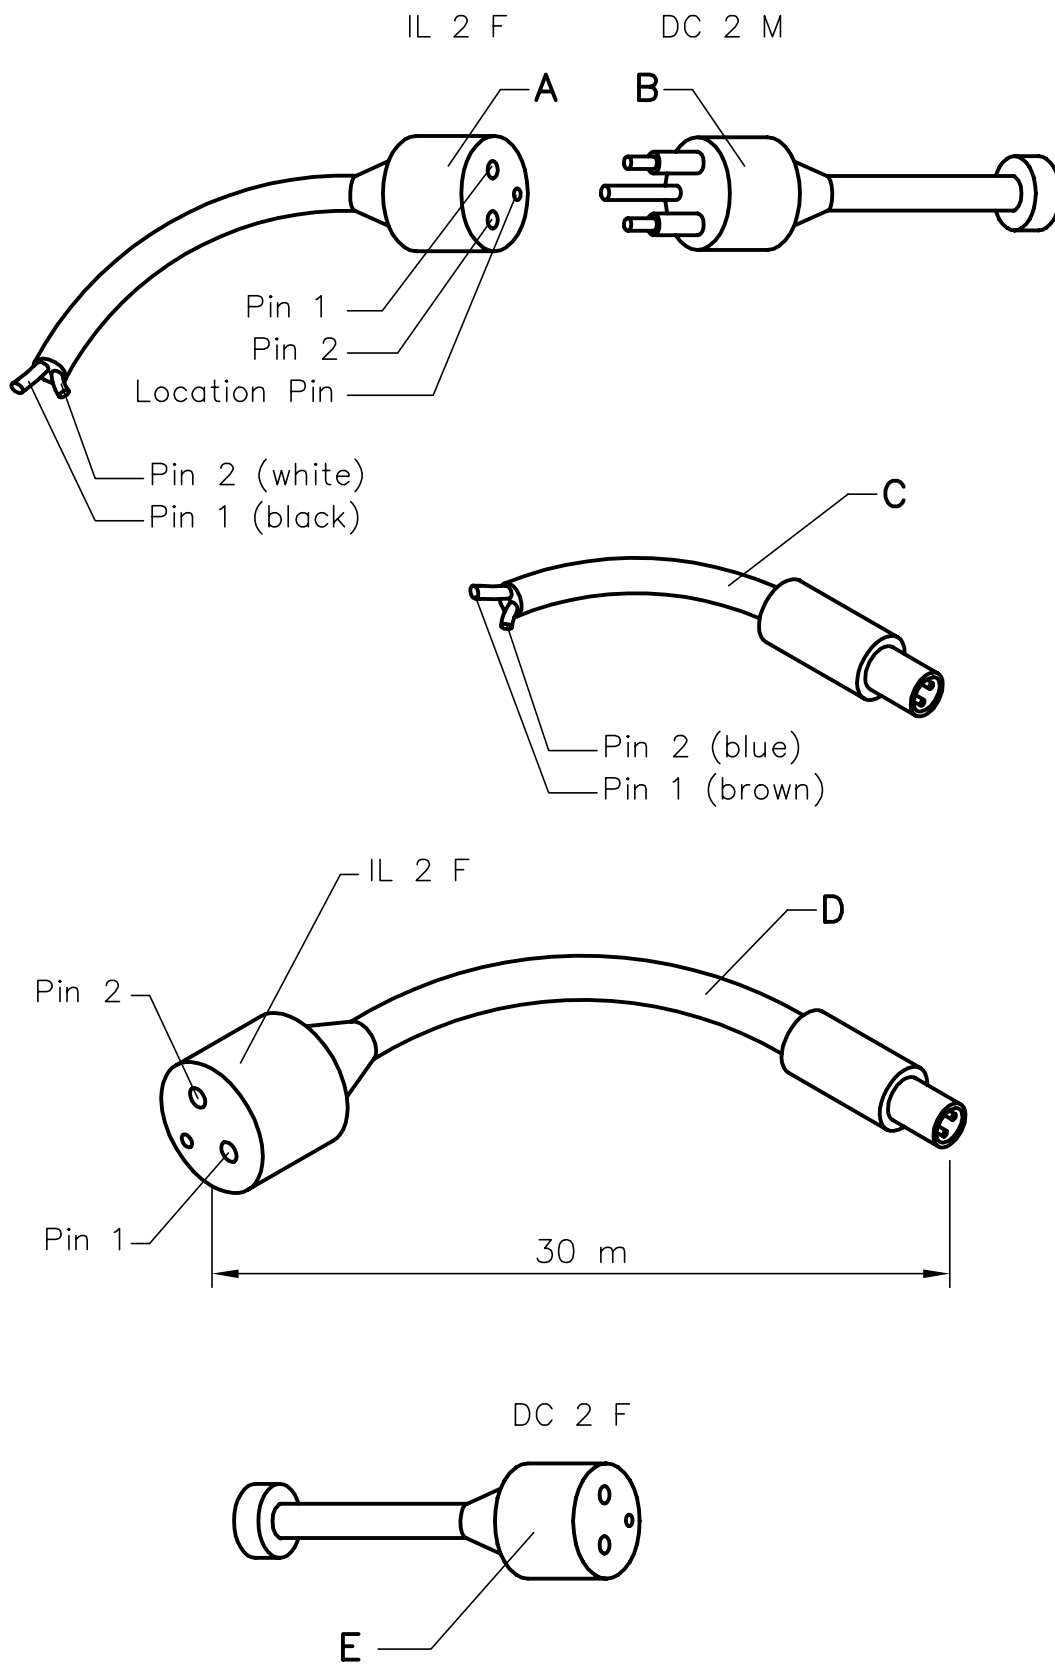
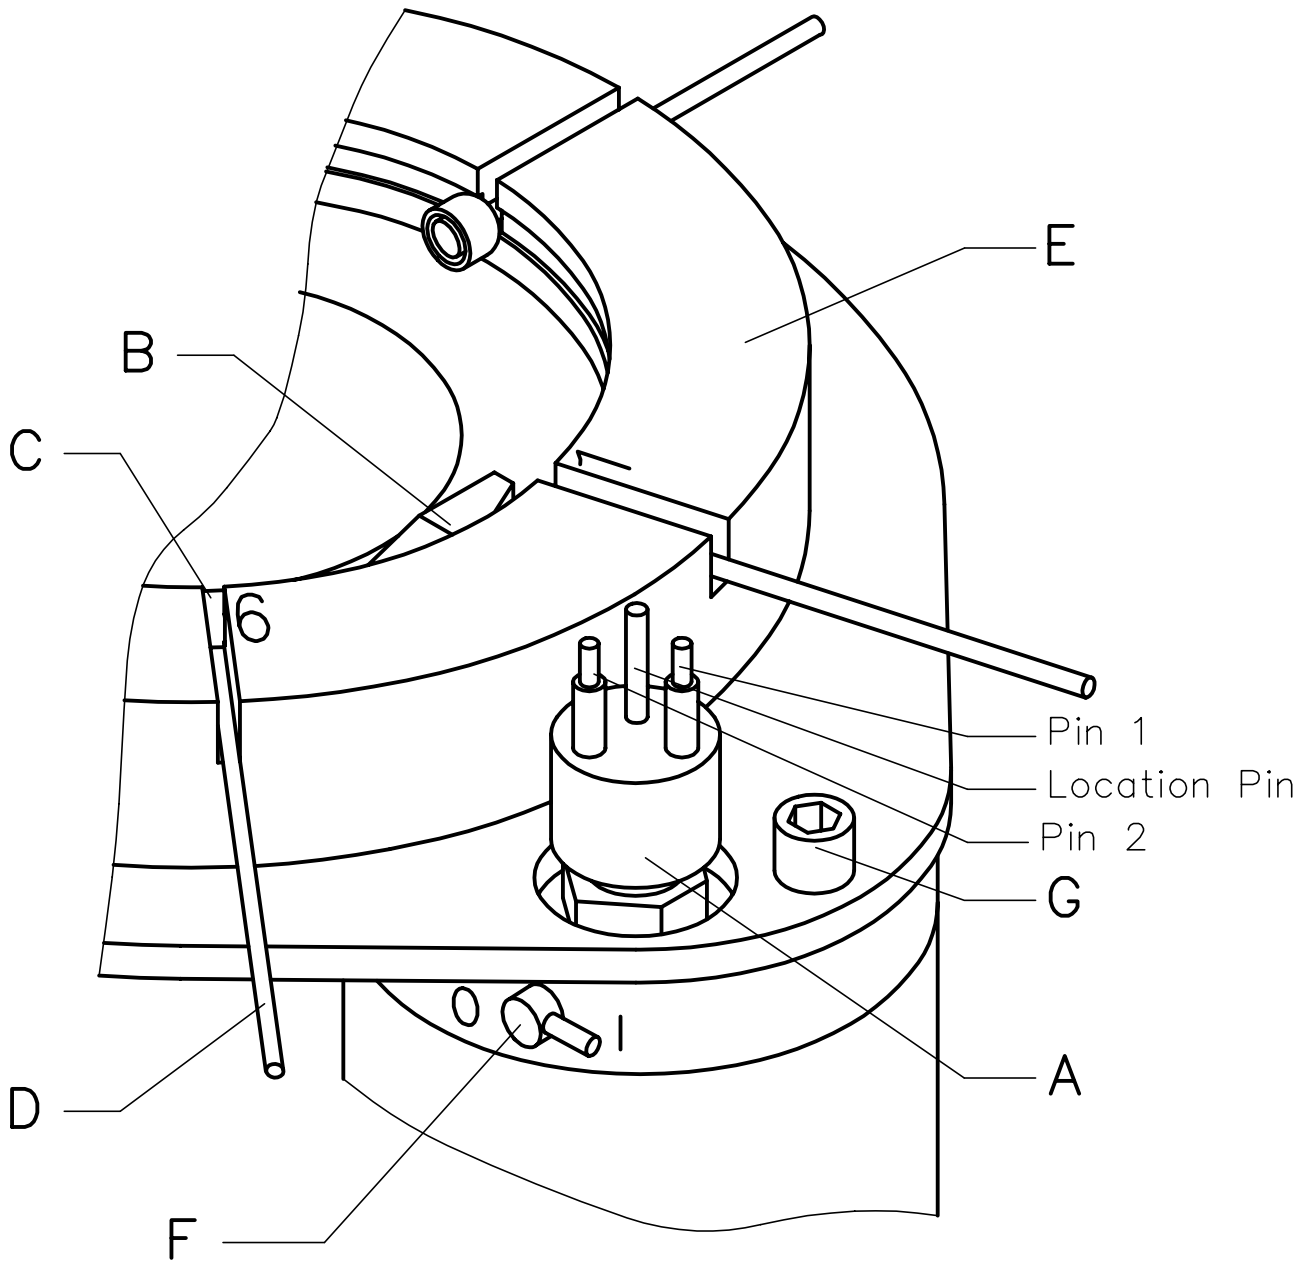
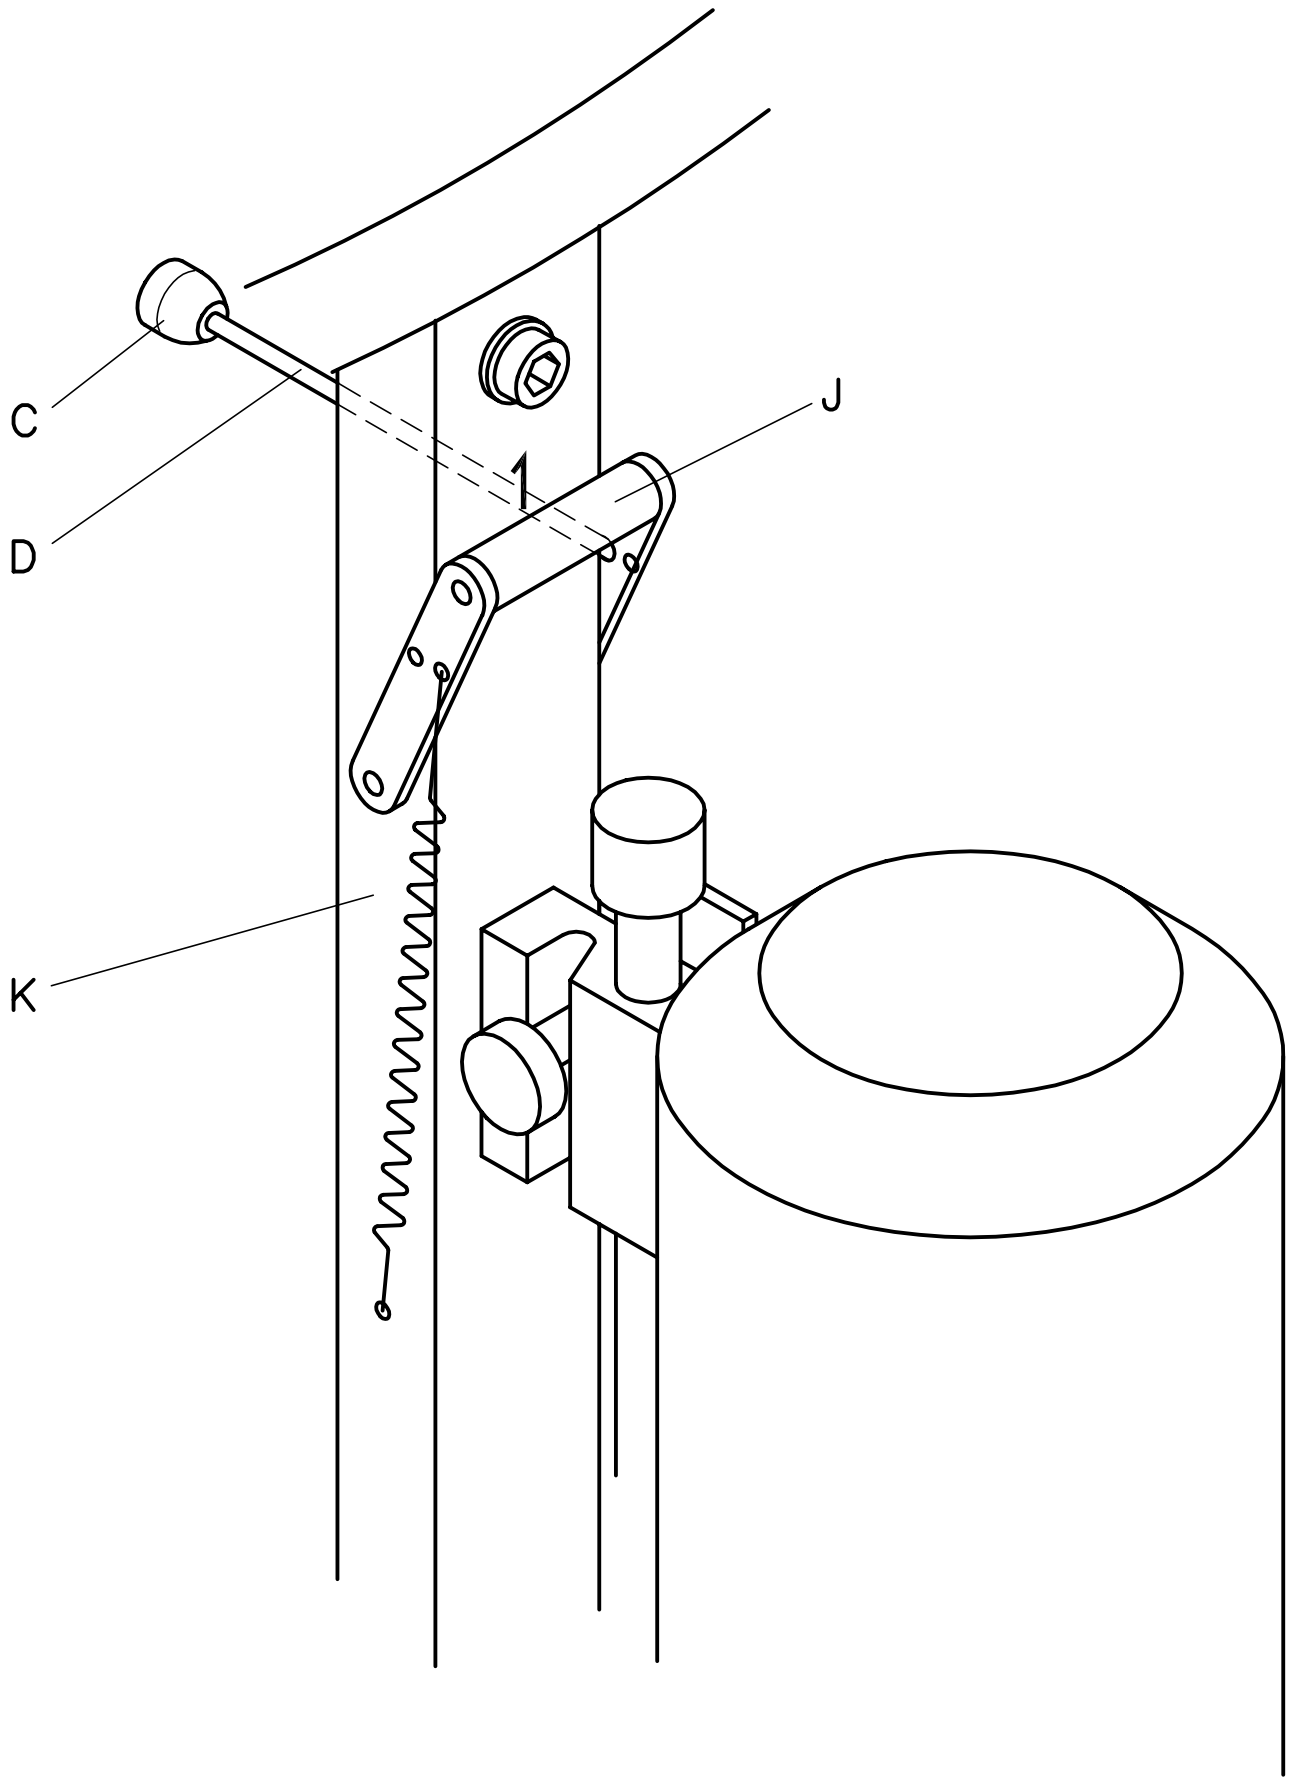

Fig. 1
Fig. 2
Fig. 3
14. Remove the Test Run Cable (Fig. 1 D).
When a **SECOND TEST RUN** of the **MULTI WATER SAMPLER MWS** is not intended, plug the dummy DC 2 F (Fig. 1 E) onto the connector BH 2 M (Fig. 2 A) and plug the dummy DC 2 M (Fig. 1 B) into the connector IL 2 F (Fig. 1 A) of the single or multi conductor cable. Beforehand the contacts should be slightly greased with the special Pin-lubricant.
2. The lever key of the Underwater Unit has to be switched to position **O** (Fig. 2 F).
3. Connect the connection cable from the slip ring box of the winch (Fig. 1 C) to the Deck Command Unit (Fig. 4 C).
4. Slightly grease the pins of the connector BH 2 M (Fig. 2 A) of the Underwater Unit with the PIN-lubricant.
5. Connect the single or multi conductor cable (Fig. 1 A) to the Underwater Unit (Fig. 2 A).
6. Lift the striking bar **J** of the rack no. **1** and put rope **D** with the plastic ball **C** into the corresponding slit no. **1** (Fig. 2, Fig. 3).
9. The lever key of the Underwater Unit has to be switched to position **I** (Fig. 2 F), the main screen appears at the display of the Deck Command Unit.
11. The procedure (as described in point 10.) has to be repeated another 5 times. Finally the second line of the display indicates with **UNDERWATER UNIT: END OF OPERATION** that a complete operation has been simulated. The release block (Fig. 2 B) is now again between slit no. **1** and no. **6** (Fig. 2).
12. Switch off Underwater Unit (Fig. 2 F) and Deck Command Unit (Fig. 4 B).
When an operation of the MULTI WATER SAMPLER MWS is not intended, the single or multi conductor cable has to be removed. To avoid corrosion of the contacts, plug the dummy DC 2 F (Fig. 1 E) onto the connector BH 2 M (Fig. 2 A) and plug the dummy DC 2 M (Fig. 1 B) into the connector IL 2 F (Fig. 1 A) of the single or multi conductor cable. Beforehand the contacts should be slightly greased with the special Pin-lubricant.
3. The lever key of the Underwater Unit has to be switched to position **O** (Fig. 2 F).
4. Lift the striking bar **J** of the rack no. **1** and put rope **D** with the plastic ball **C** into the corresponding slit no. **1** (Fig. 2, Fig. 3).
8. The lever key of the Underwater Unit has to be switched to position **I** (Fig. 2 F), the main screen appears at the display of the Deck Command Unit.
14. Switch off Underwater Unit (Fig. 2 F) and Deck Command Unit (Fig. 4 B) when the Underwater Unit is back on board.
When a further operation of the MULTI WATER SAMPLER MWS is not intended, the single or multi conductor cable has to be removed. To avoid corrosion of the contacts, plug the dummy DC 2 F (Fig. 1 E) onto the connector BH 2 M (Fig. 2 A) and plug the dummy DC 2 M (Fig. 1 B) into the connector IL 2 F (Fig. 1 A) of the single or multi conductor cable. Beforehand the contacts should be slightly greased with the special Pin-lubricant.
2. Unscrew 3 hexagon socket screws M 6 (Fig. 2 G). and remove the motor housing.
- b) the the red releaser is not positioned between slit no. **1** and no. **6** of the basic ring (Fig. 2 B)
1. Connect the Test Run Cable (Fig. 1 D) to the Deck Command Unit (Fig. 4 C).
2. Connect the Test Run Cable (Fig. 1 D) to the removed motor housing (Fig. 2 A).
4. The lever key of the motor housing has to be switched to **I** (Fig. 2 F), the main screen appears at the display of the Deck Command Unit (see DECK COMMAND UNIT, page 8).
11. The red releaser block is to be turned by hand until it is positioned between slit no. **1** and no. **6** of the basic ring (Fig. 2 B).
1. Check the connection between the plug SUBCONN IL 2 F (Fig. 1 A) and the single or multi conductor cable (and check the cable adapter if used).